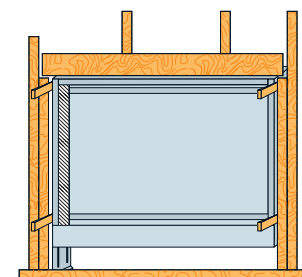

Figure 4: Add shims
3. Add shims (as necessary) to provide a proper fit and prevent warping (see **Figure 4**).